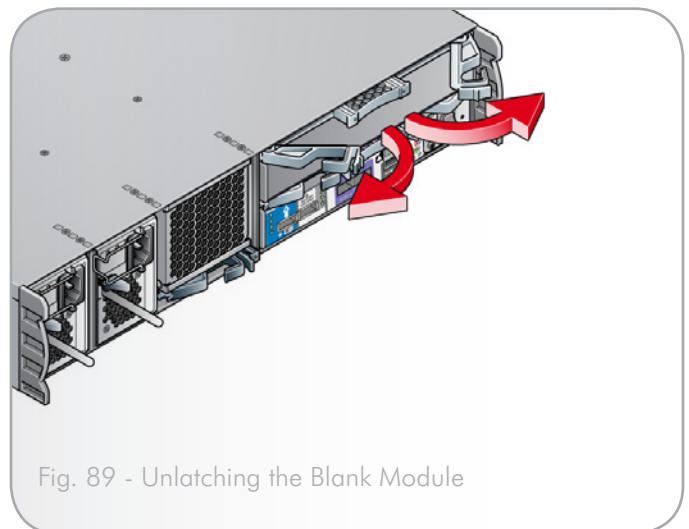

Fig. 89 - Unlatching the Blank Module
2. Pull the latches outward to eject the module out of the enclosure (Fig. 89).